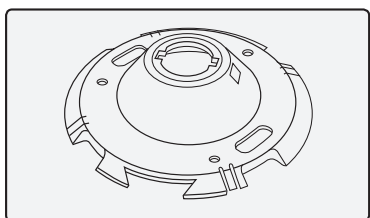

Figure 15
3. Support the jug on any surface when it is hot to prevent burns of any type. (Figure 15).